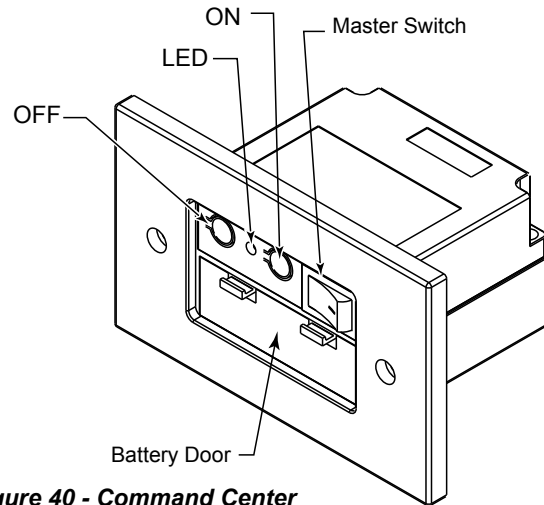

Figure 40 - Command Center
4. During the 10 seconds, press the OFF button on the transmitter to learn. Another two beeps will confirm success. Figure 40